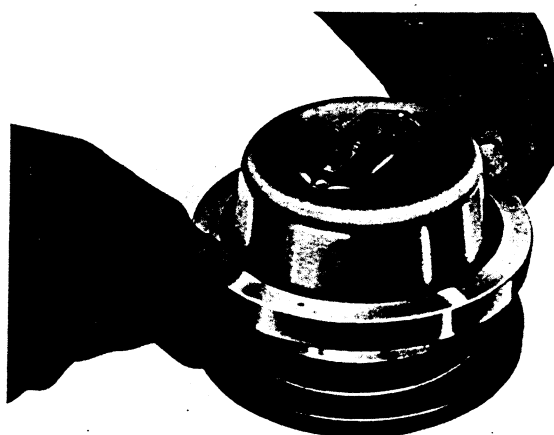

FIG. 152.
2. Then mount FT.105A/1 over Replacer Adaptor FT.105B/2 as shown in Fig. 152. Using taper of the former as a guide, press new seal, **lip leading**, on to the Replacer Adaptor.